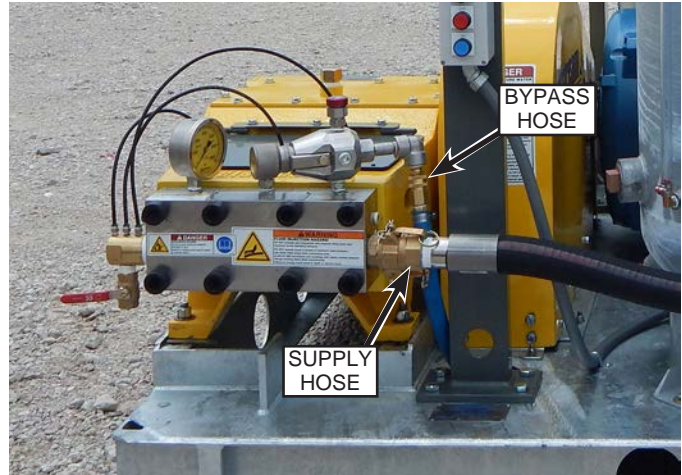

Fig. 149: Pump Removal Preparation
2. Disconnect the bypass hose (Fig. 149) and supply hose from the manifold.